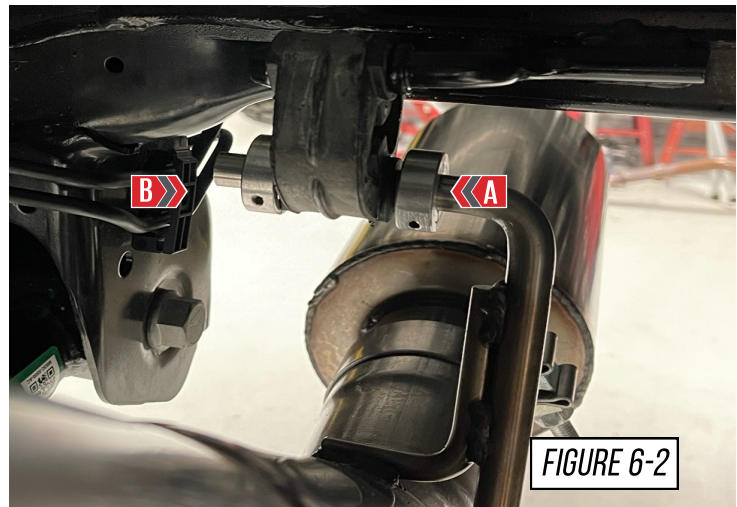
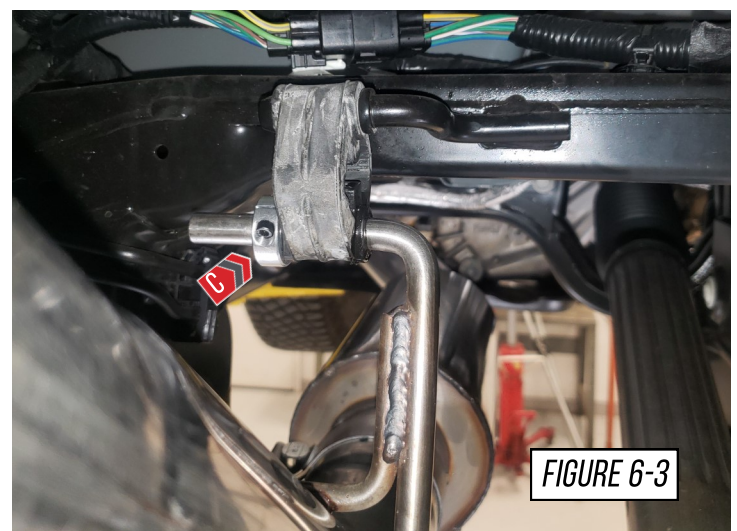

FIGURE 6-2
FIGURE 6-3
**Note:** **Figure 6-2** displays lock collar locations for the dual exit system. **Figure 6-3** shows lock collar positions for the single exit system.
Before inserting the hanger bar into the OE hanger slide one lock collar clamp onto the hanger bar so it is positioned on the bar, as shown at **(A)** in **Figure 6-2**.
Next slide the hanger bar into the OE hanger, and place the second lock collar on the bar, as shown **(B)** in **Figure 6-2**.
Slide the hanger bar into the OE hanger, and place a lock collar on the bar, as shown at **(C)** in **Figure 6-3**.
**Note:** If adjustments are required to achieve this fitment, slide the over axle tube hanger bar towards the driver's side frame rail. Refer to Figure 6-3.